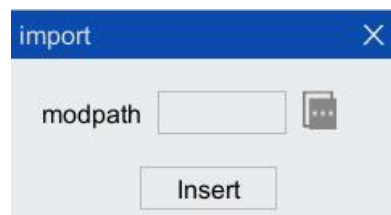

Figure 5-46 "import" instruction configuration interface
Step1. Click "Insert Cmd> auxiliary instruction> import" option in the toolbar of the program editor to pop up "import" instruction interface, as shown in Figure 5-46.